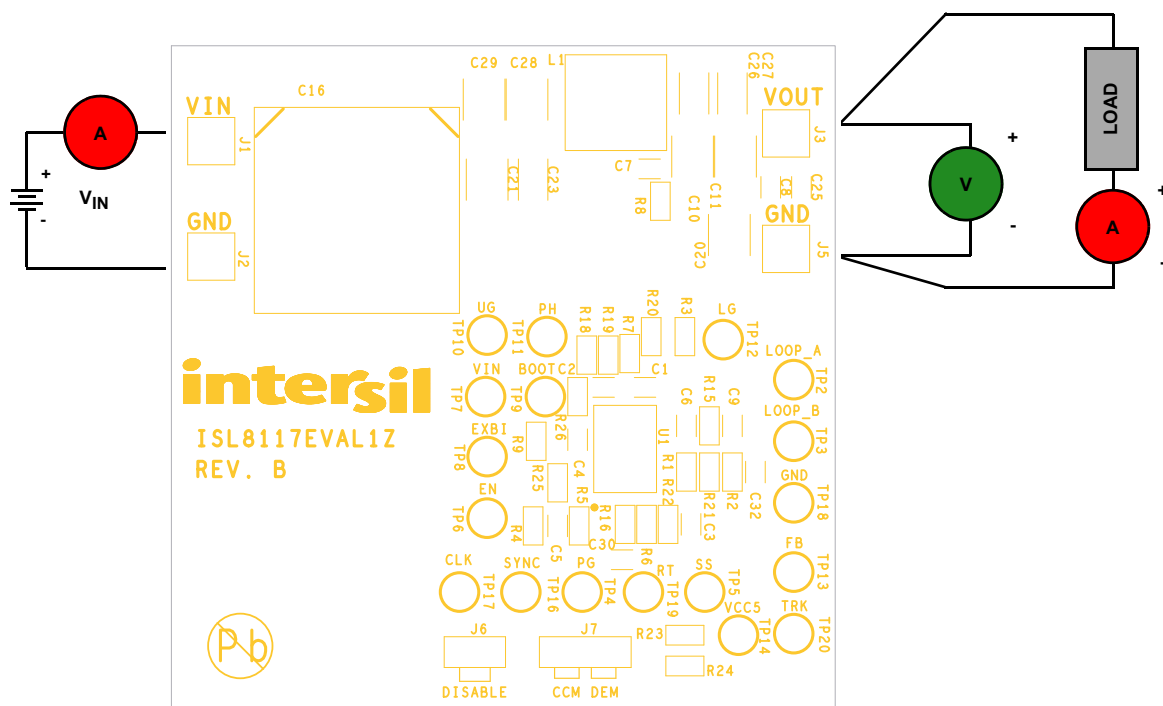

FIGURE 4. PROPER TEST SETUP
1. Jumper J7 provides the option to select CCM or DEM. Please refer to Table 2 for the desired operating option. Ensure that the circuit is correctly connected to the supply and electronic loads prior to applying any power. Please refer to Figure 4 for proper setup.
As shown in Figure 4 on page 3, 4.5V to 60V V_{IN} is supplied to J1 (+) and J2 (-). The regulated 12V output on J3 (+) and J5 (-) can supply up to 6A to the load.